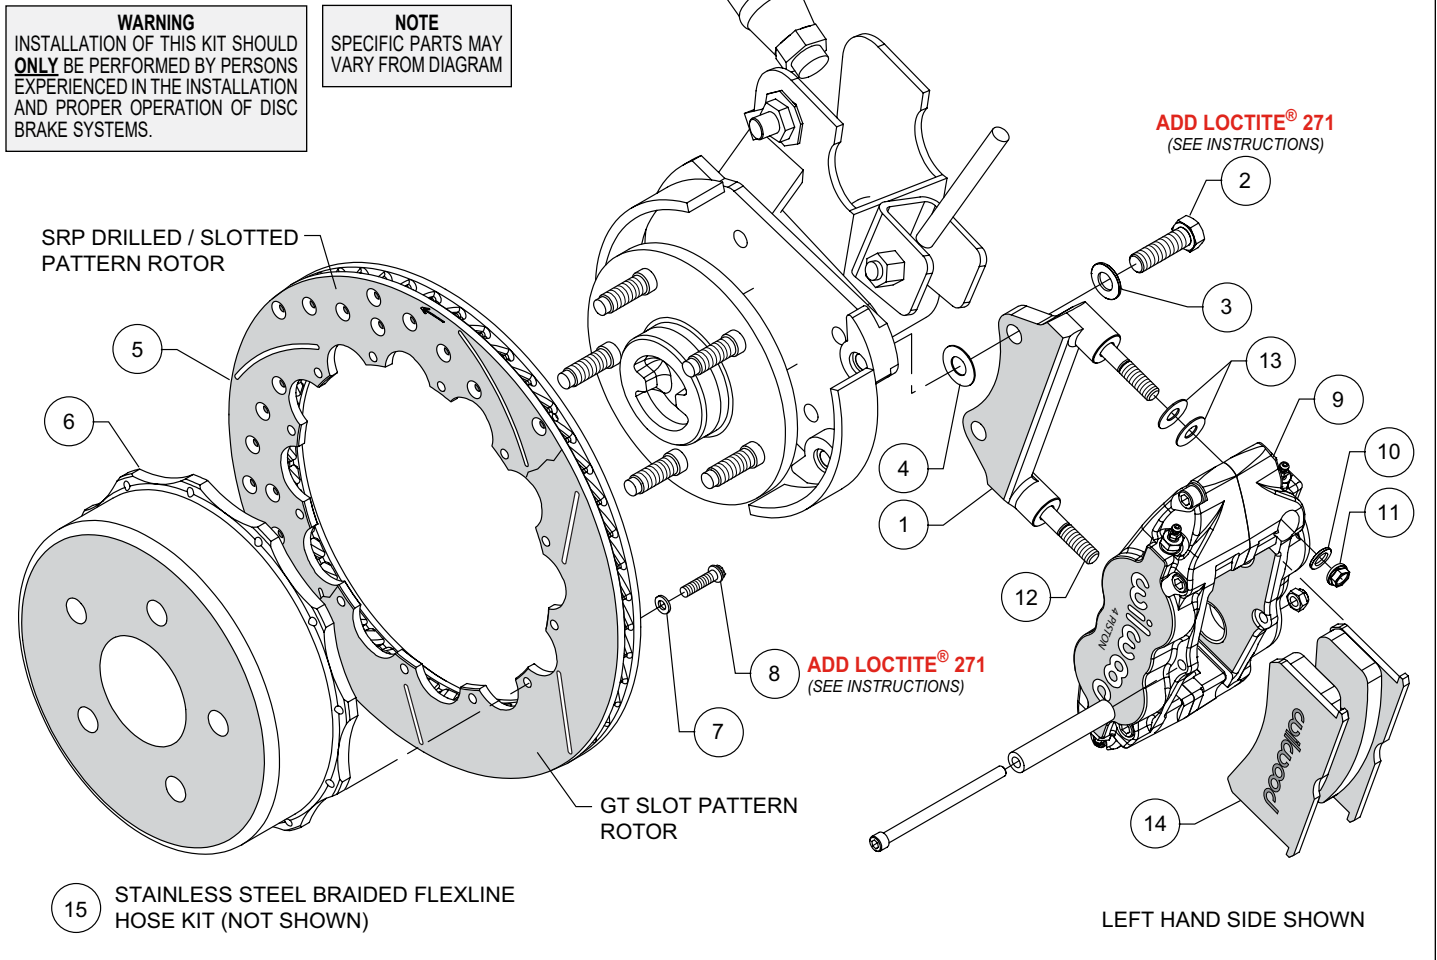
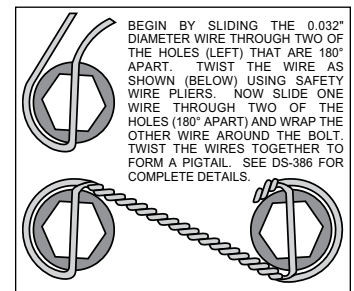

Figure 1. Typical Installation Configuration
Figure 3. Safety Wire Diagram
**NOTE:** Numbers in parenthesis refer to the parts list and Figure 1 on the preceding pages.
•The caliper mount bracket (1) should initially be installed with clean, dry threads on the mounting bolts. Orient the bracket as shown in Figure 1, and install using mount bolts (2) and washers (3). Initially place one .033" thick shim (4) on each bolt between the bracket and upright, Figure 1. Temporarily tighten the mounting bolts. **NOTE:** The bracket must fit squarely against the mount bosses on the upright. Inspect for interference from casting irregularities, machining ridges, burrs, etc. Later, after the caliper alignment has been checked, the mount bolts will be secured using red *Loctite*® 271.
•Orient the rotor (5) and the hat (6) as shown in Figure 1 and Photo 2. Attach rotor to hat using bolts (8) and washers (7). Apply red *Loctite*® 271 to the bolt threads and torque to 140 in-lb using a criss-cross pattern. The bolts must be safety wired using standard 0.032 inch diameter stainless steel safety wire as shown in Figure 3. Please refer to Wilwood's data sheet DS-386 (available at [www.wilwood.com/Pdf/DataSheets/ds386.pdf](http://www.wilwood.com/Pdf/DataSheets/ds386.pdf)) for complete safety wire installation instructions.
•Initially place two .035" thick shims (13) on each stud (12) as shown in Figure 1 and Photo 4. Mount the caliper (9) onto the bracket (1) using lock nuts (11) and washers (10), Figure 1. Temporarily tighten the lock nuts and view the rotor through the top opening of the caliper. The rotor should be centered in the caliper, Photo 5. If not, adjust by adding or subtracting shims (4) between the bracket and the mounting bosses. Always use the same amount of shims on each of the two mounting bolts. Once the caliper alignment is correct, remove the bracket mounting bolts one at a time, apply red *Loctite*® 271 to the threads, and torque to 60 ft-lb.
•Remove the caliper center bridge pad retainer bolt, nut, and tube from the caliper. Insert the brake pads (14) into the caliper, with the friction material facing the rotor, as shown in Photo 6. Check that the top of the brake pad is flush with the outside diameter of the rotor, Photo 7. If not, adjust by adding or subtracting shims (13) between the caliper and the bracket. After the caliper pad height is set, torque the caliper lock nuts (11) to 30 ft-lb. Secure the brake pads in place with the center bridge pad retainer tube,